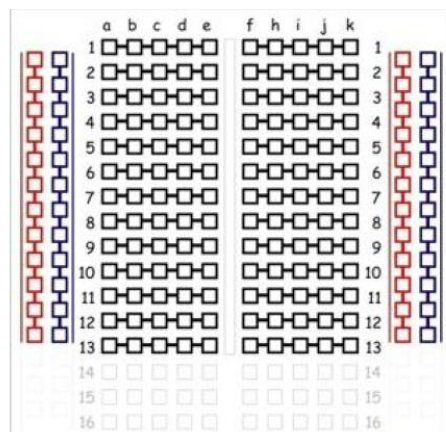

Fig. 2. Internal connections of the breadboard
- Connections inside the breadboard are made according to Figure 2. It is suggested to use the red and blue terminals at the left side as source terminals and red and blue terminals on the right side as load terminals. I.e., the source voltage is connected to the left side and load resistor to the right side.
- Driver circuit fits best at the center of the breadboard as in Fig. 2.